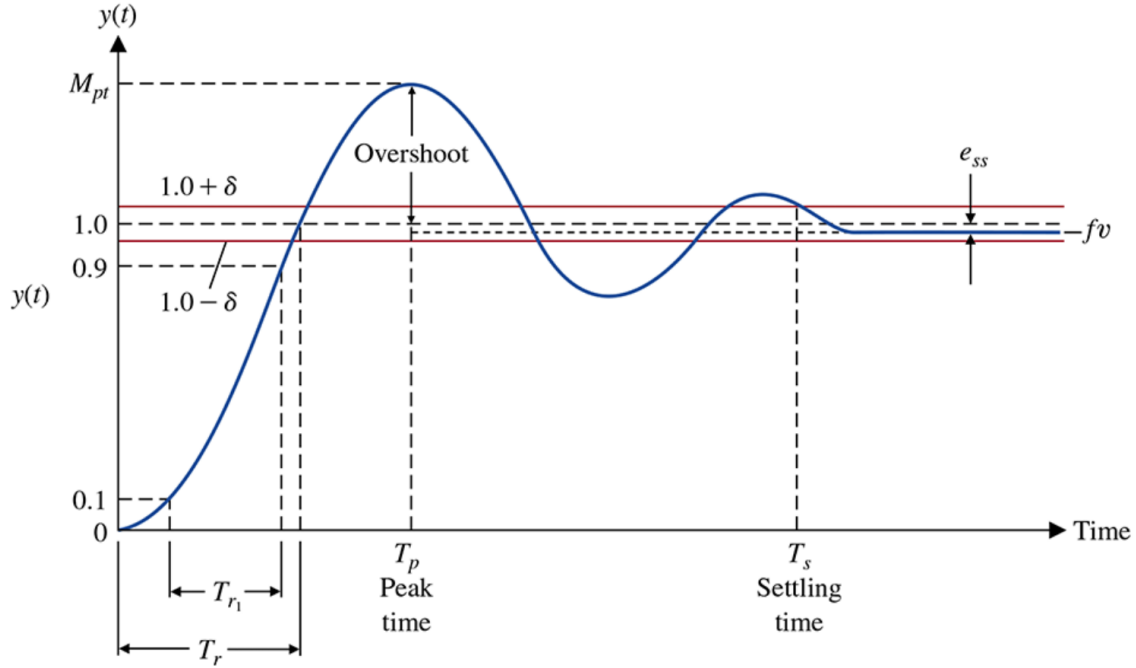

Figure 2: Generic step response of an under-damped second-order system (Figure 5.6 of Dorf and Bishop, *Modern Control Systems*, 14th edition, Pearson, 2022).
where $\phi = \tan^{-1}\left(\frac{\sqrt{1-\zeta^2}}{\zeta}\right) = \cos^{-1}(\zeta)$. A plot of a generic step response from a standard under-damped second-order system is given in Figure 2.
Pre-lab Question 5 (3 marks) Consider the generic step response from Figure 2. Show that the percent overshoot is
- **Time domain identification:** We will observe the step response of the system using a proportional feedback gain of $K = 4$. We will experimentally measure peak time (T_p) and percentage overshoot ($P.O.$), as defined in Figure 2 and its associated discussion in Section 2.1, based on which we can calculate the unknown plant parameters.
- We have set up our model such that an entire period of the step response (6 seconds) will be visible on your Simulink *scope* screen. The initial part of your step response should look like Figure 2 which is what we are interested in.
- Measure the height of the first overshoot peak which is the largest overshoot peak. This will give you the peak value of the step response denoted as M_{pt} in Figure 2.
- Next measure the steady-state value of the step response which occurs after the settling time and is denoted as fv in Figure 2. We called it y_{ss} in the Pre-Lab hints document.
- Once you have both M_{pt} and fv (or y_{ss}), you can find percent overshoot (*P.O.*) as given in Equation (2) of the Pre-Lab hints document.